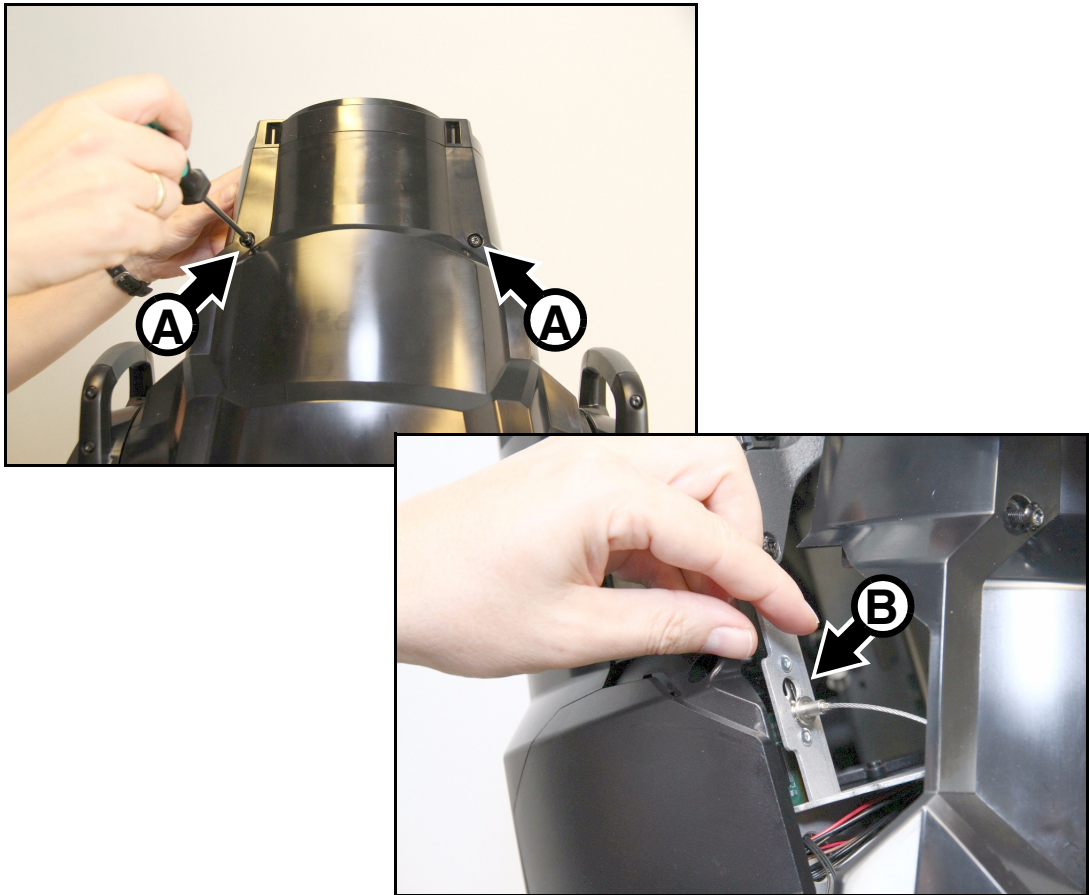

Figure 9: Access to the head
2. See Figure 9. Remove the top head cover by loosening its two Torx 25 captive retaining screws **A** until the screws turn freely. Lift the front of the cover slightly away from the head, then slide the cover towards the front of the head to release the rear of the cover.
4. For easiest access to the components inside the head, position the head at an angle with the front facing downwards as shown in Figure 9, then apply the tilt lock.
1. See Figure 9. Hold the cover up to the head and fasten its safety wire retaining clip **B** into the head chassis by pressing the clip through its hole and then sliding it until it is held securely.